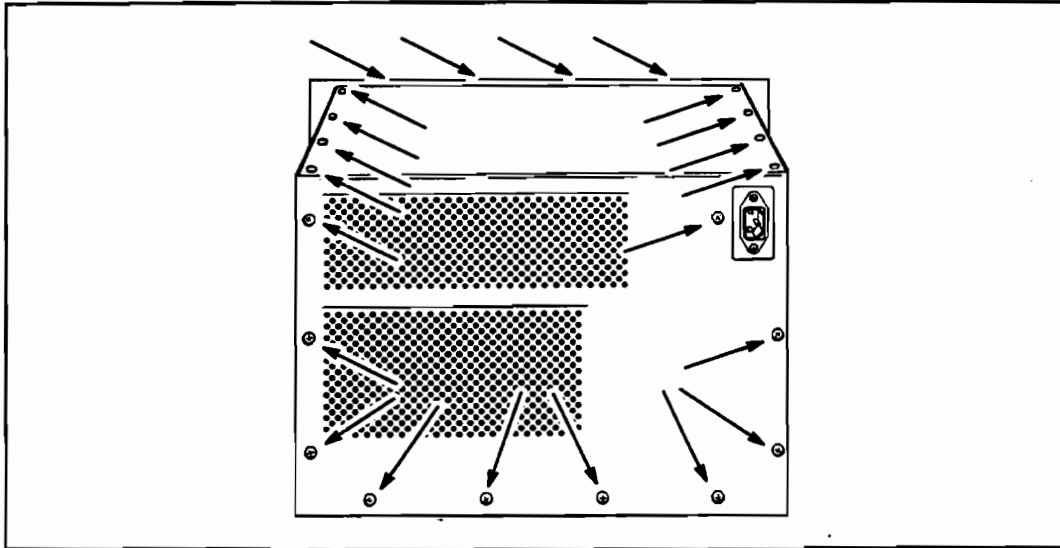

Figure 6-94. VRC Top Cover Screws
1. Switch the plotter OFF (O) and disconnect the ac power cord.
3. Using a 2 pt. Pozidriv screwdriver, remove the 22 VRC top cover mounting screws. See Figure 6-94.